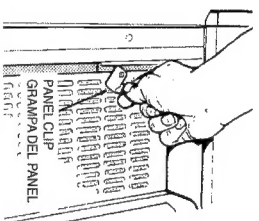

FIG. 6
6. **Open filter panel.** (FIG. 6 & 7)
6. **Abra el panel del filtro.** (FIG. 6 & 7)